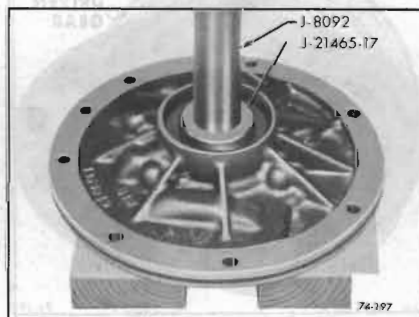

Figure 74-187
14. Check oil pump bushing for nicks, severe scoring or wear. If bushing replacement is necessary remove as follows: Support pump on wood blocks using Tool J-21465-17 and Drive Handle J-8092. Press bushing out of pump body. See Figure 74-187.
1. Using Tool J-21465-17 press new bushing into pump body. Press until it is flush with top of pump hub. See Figure 74-187.